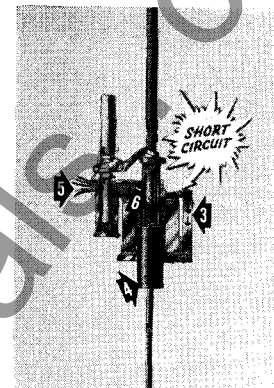

Figure 2
**Figure 2**—Fault or overload current through the coil 3 raises armature 4, pushing oil freely through port 5 and compressing operating spring 6. Contacts are still closed.